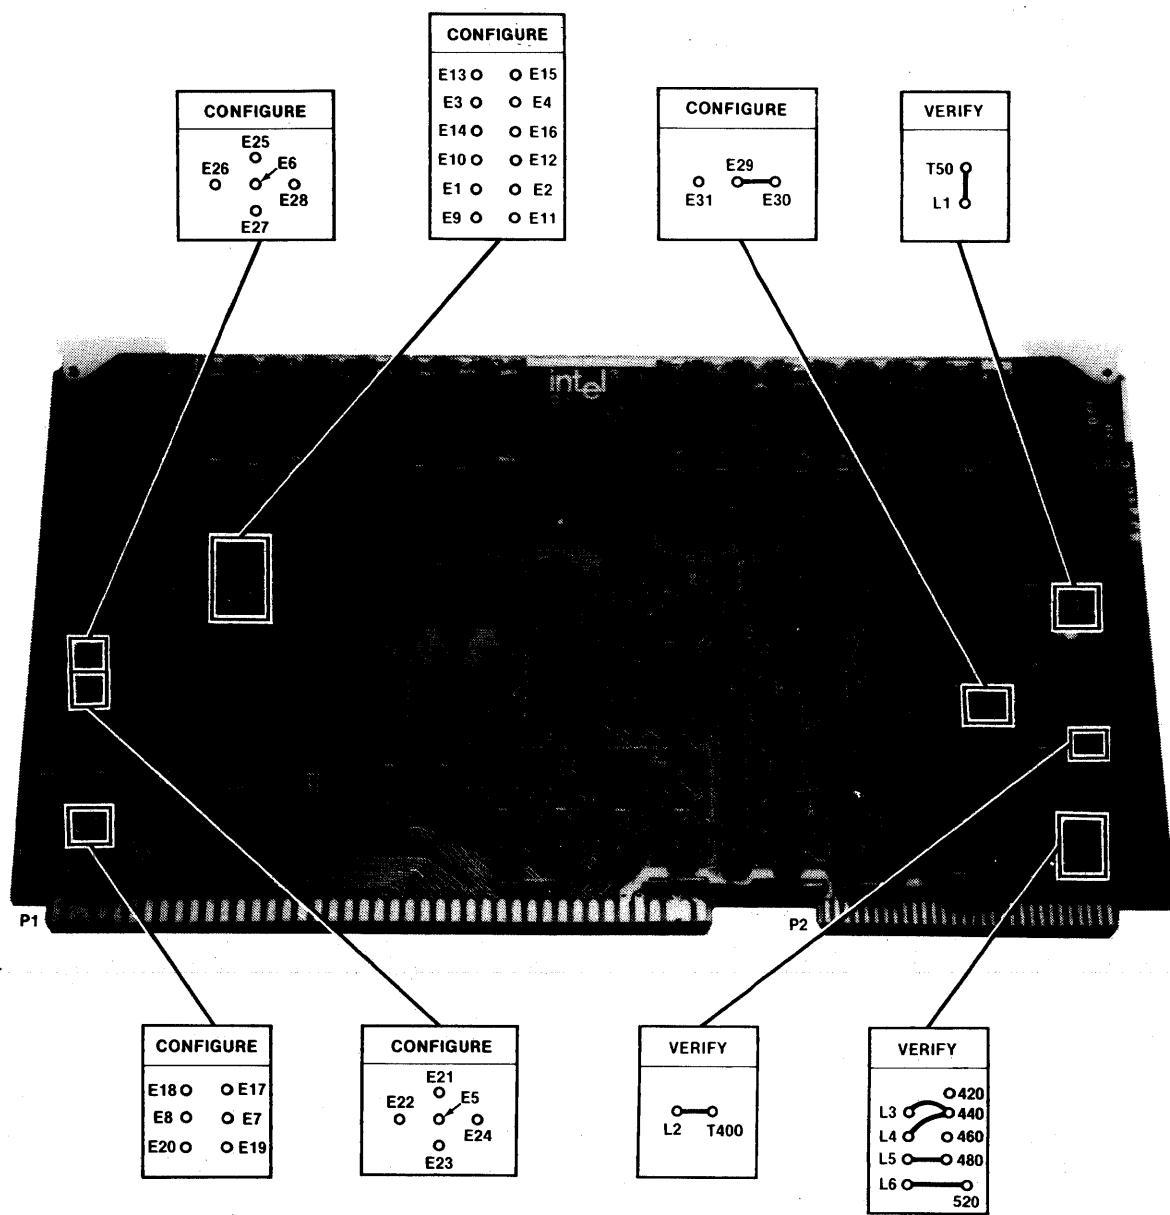

Figure 5-15. iSBC 032™ 32k RAM Board Configuration Jumpers
- Referring to figure 5-15 and table 5-1, configure the following six plug-on jumpers: